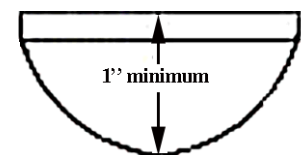

FIG. 13
- 10. When the fretboard is dry, remove the clamps and begin shaping the back of the neck to suit your grip. We have only done basic rounding for you. When we finish off this banjo, we like to alter the profile as shown at right. Do this with coarse sanding blocks, rasps, and/or scrapers until you are happy with the shape. Be careful to keep the overall thickness at least 1", including the fretboard. (fig. 13)